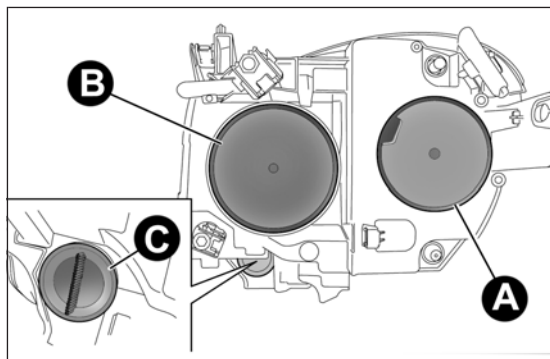

fig. 140
These contain the bulbs for the side lights/daytime running lights (DRL), dipped beams, main beams and direction indicators. The bulbs are arranged as follows fig. 140:
- then refit the cover A fig. 140.
- remove cover B fig. 140;
- then refit the cover B fig. 140.
- turn the cover C fig. 140 anticlockwise by $\frac{1}{4}$ of a turn;